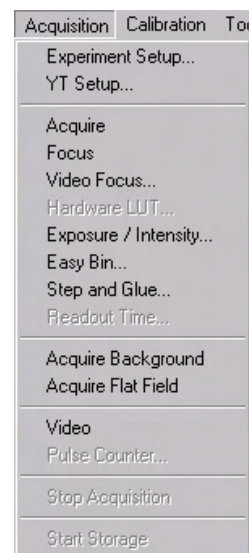

Figure 54. Acquisition menu
12. Once again, click on **Acquisition** in the Menu bar. Again, the Acquisition menu will appear as shown in Figure 54.